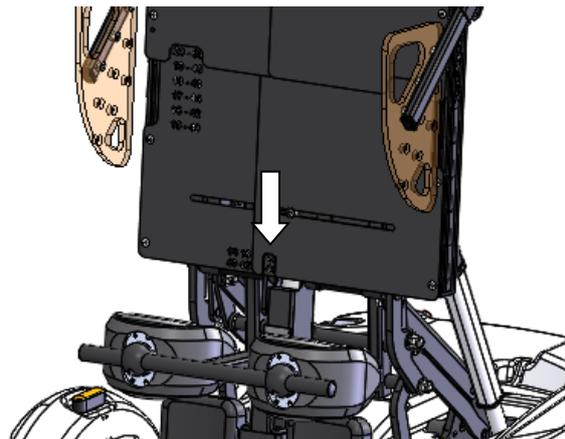

Figure 15 : read seat width
- Adjust to the desired seat width (using the graduation at the front edge of the seat see figure 15)